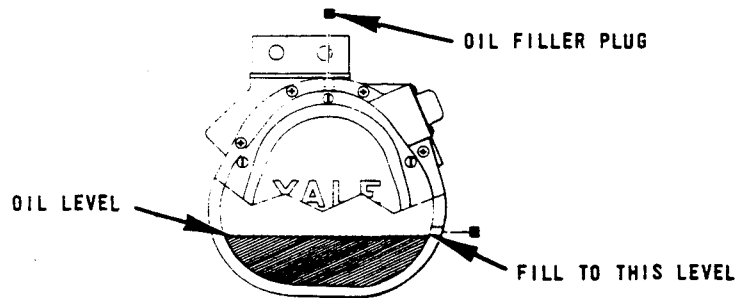

FIGURE 4.
- (b) After suspending the hoist check the gear case to be sure oil has been added. If not, fill the gear case to the level of the filler plug with YALE® gear oil part number 0106091-00 or equivalent. See Figure 4.